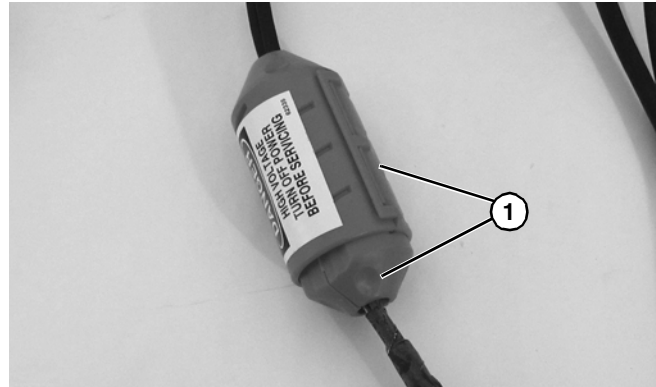

Figure 20
1. Twist covers (**Figure 20, item 1**) apart.